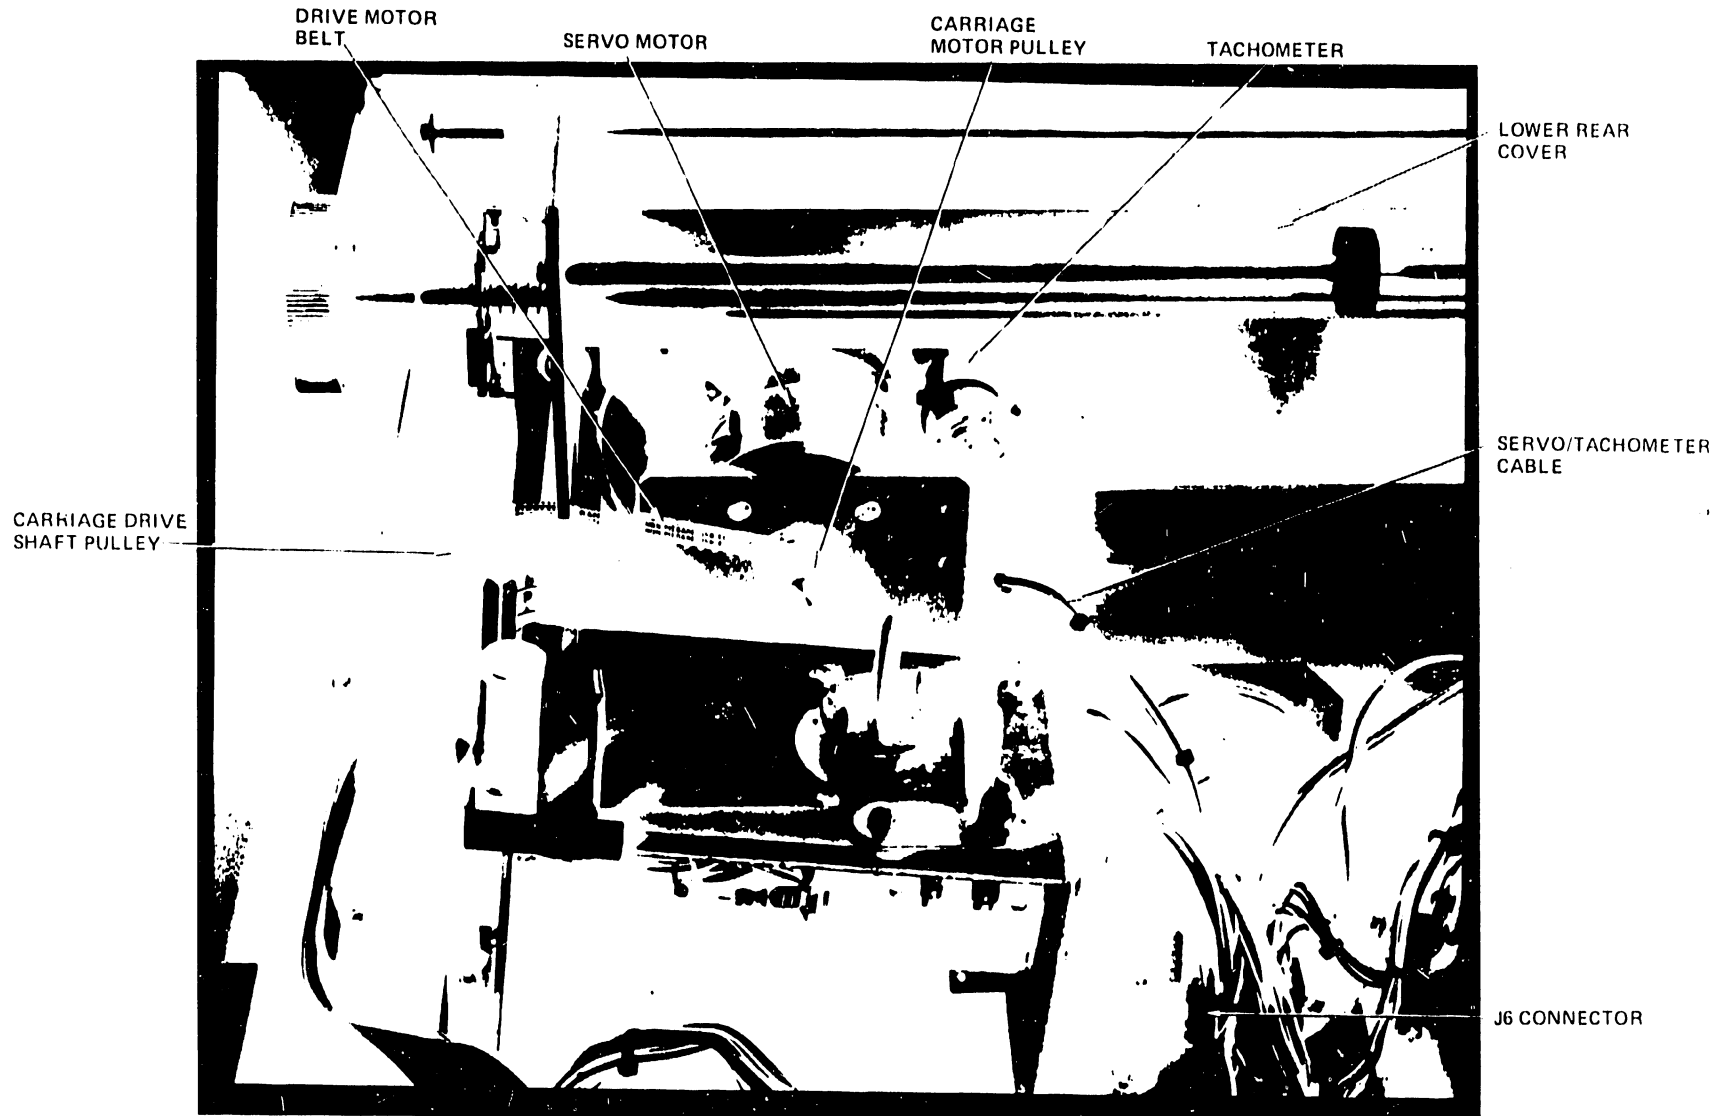

Figure 5-43. Servo Motor and Tachometer
1. Remove the lower rear cover, held in place by 2 Phillips screws (see Figure 5-43).